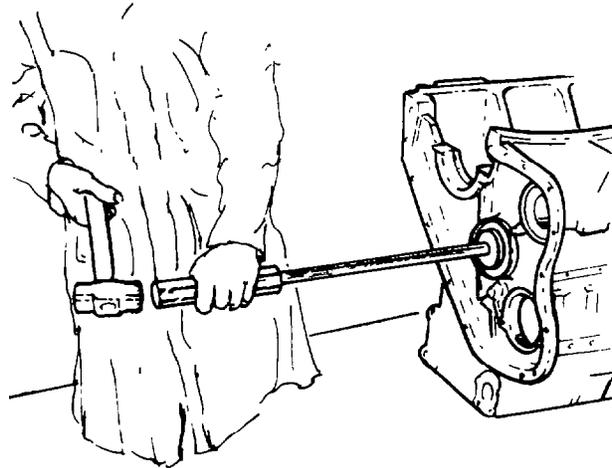

Fig. 61 — Installing Camshaft Bearings
- b. Use tool J-21428-01 to install the new camshaft bearings in the block (see fig. 61); after the bearings are in place measure the I.D. of the bearings to ensure that they are not undersize due to burrs on the O.D. caused by installation.